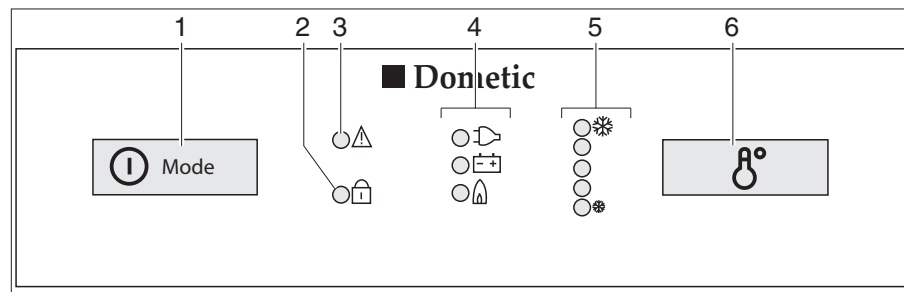

Fig. 323 Operating controls for the refrigerator (Dometic 8 series with MES)
- Press the on/off switch/energy selector switch (Fig. 323,1) down for 2 seconds in order to switch on the appliance. The LED of the operating mode chosen most recently lights up.
- If appropriate press the on/off switch/energy selector switch (Fig. 323,1) until the gas operating indicator "🔥" lights up. Gas supply is open. Ignition will take place automatically. A ticking sound can be heard until ignition has been completed successfully.
- Use switch (Fig. 323,6) to adjust refrigerating temperature.
- If appropriate press the on/off switch/energy selector switch (Fig. 323,1) several times until the operating indicator 240 V "" lights up.
- If appropriate press the on/off switch/energy selector switch (Fig. 323,1) several times until the operating indicator 12 V "" lights up.